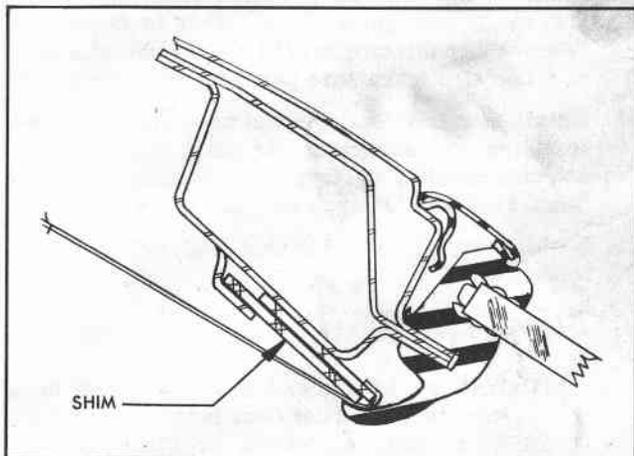

Fig. 10 Shim Installed
- 4. Place shim between headlining and foundation board as shown in Figure 10.